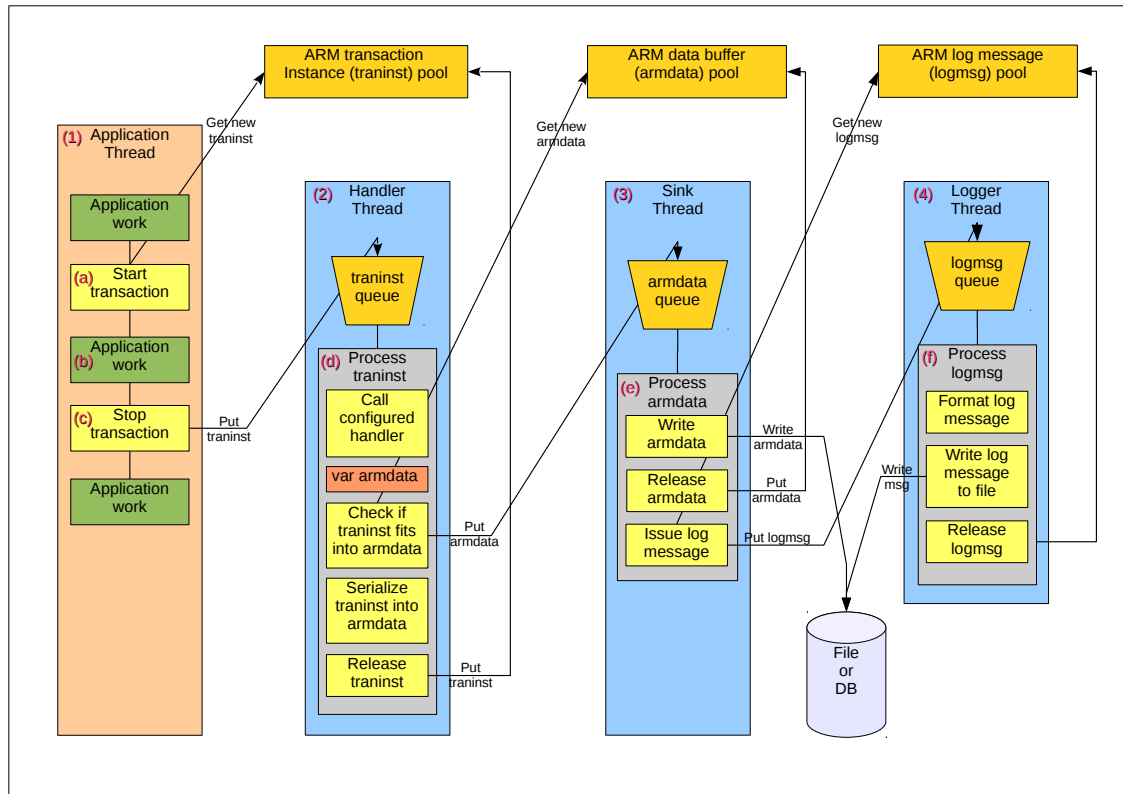

Figure 3.4: Agent data processing thread pipeline
- Minimal influence to the instrumented application using a threading pipeline (Figure 3.4) for processing the ARM data within the instrumented application
The MyARM agent implementation measures and processes timing information about the instrumented application. To minimize the interference the MyARM agent implementation uses a threading pipeline as shown in Figure 3.4 to process the measured data.
A typical ARM response time measurement (ARM transaction) is shown in Figure 3.4 with the following letters in parenthesis:
The ARM 4.0 standard states that any ARM implementation has to be thread-safe. The MyARM implementation uses threads of their own to process measured data (Figure 3.4). Therefore if you use MyARM in a single-threaded program it is not really single-threaded but the interference between the instrumented application and the MyARM agent is reduced to a minimum regardless which configuration is used.